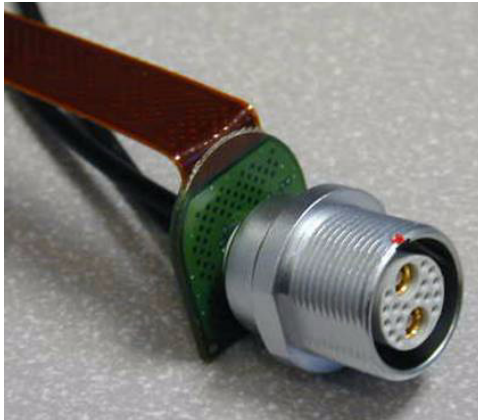

Figure 45 Creating a sharp bend
- Create A Sharp Bend (Figure 45): The flex circuit must be bent at a right-angle where it meets the printed circuit board. It can only be bent after heat has been applied to it (i. e. using a hot-air gun, or a similar device)